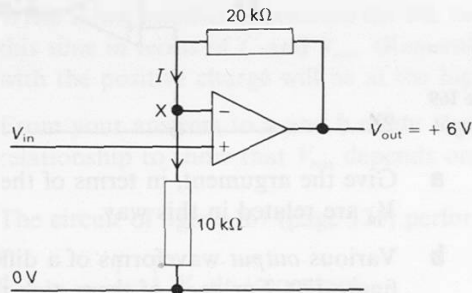

Figure I72
- 28(L)** In the circuit shown in figure I72, the $10\text{ k}\Omega$ resistor connects the inverting input to 0 V .
- Set up axes of resistance and potential as in question 17, and draw a 'potential ladder' for the circuit of figure I72. Mark on it the point representing X in the diagram.